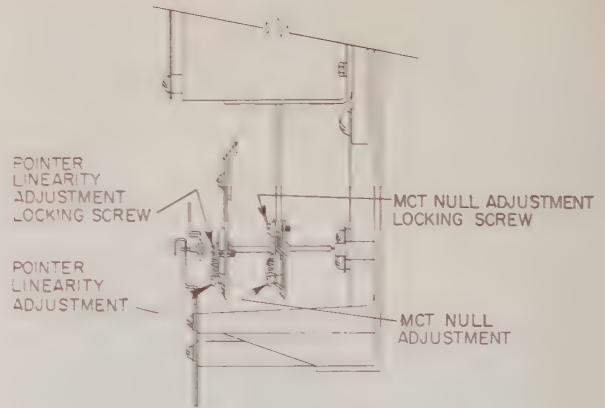

FIGURE 14 - MCT Null and Pointer Linearity Adjustments
3. Loosen pointer linearity adjustment locking screw (Figure 14) and turn pointer linearity adjustment screw until pointer reads midscale. Tighten locking screw.
If pointer travel is equally divided on both sides of midscale, proceed to step 5. If not, apply midrange pressure to Bourdon tube, loosen pointer linearity adjustment locking screw, and turn pointer linearity adjustment screw (Figure 14) as follows: